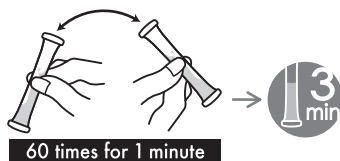

Fig.4
6. Shake the tube 60 times for 1 minute. And let it sit for 3 minutes. (Fig.4)